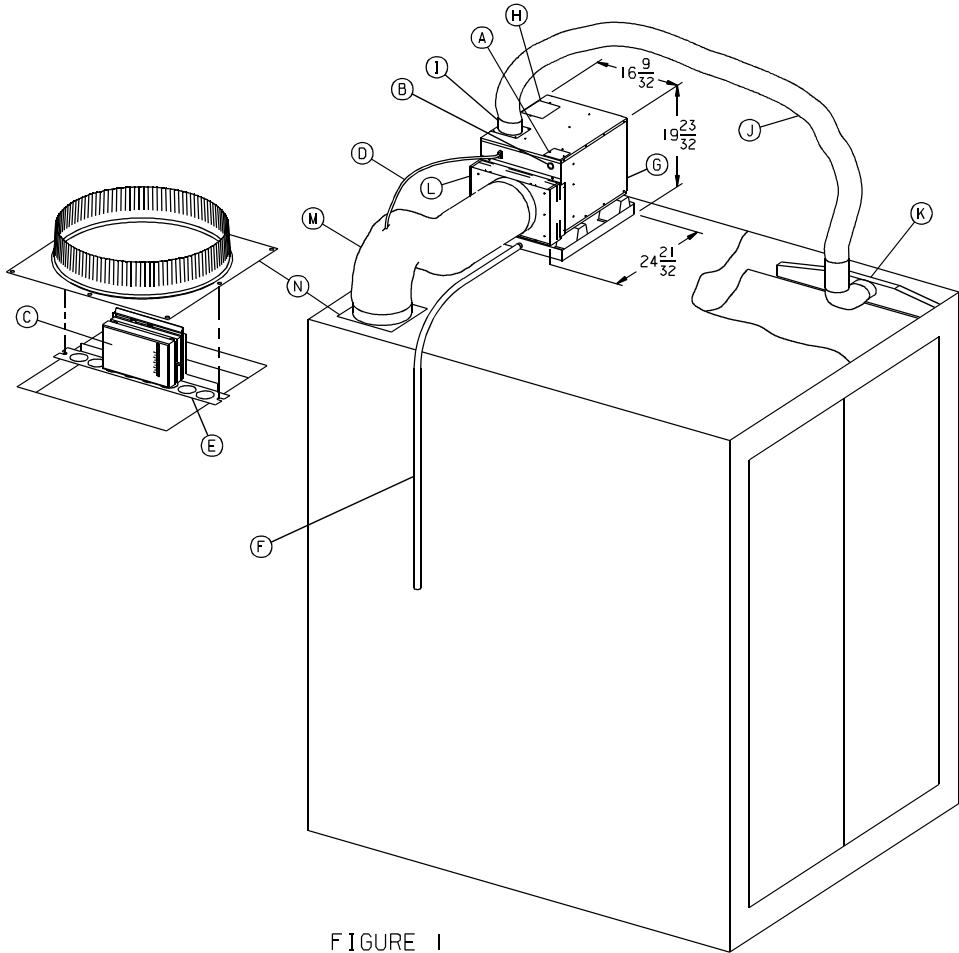

FIGURE 1
A recommended installation is shown in Figure 1. Actual mounting and placement can vary according to existing conditions.
- A) High voltage wiring must be routed through a separate opening in the outer cabinet. This opening is referred to as the "power wire entry" (See Figure 1 (B), page 3). RV Products provides a 7/8" diameter opening for 1/2" conduit. A knockout for 3/4" conduit is also provided.
The thermostat should be mounted on the return air duct mounting bracket (See Figure 1 (C), page 5). The air conditioner and thermostat connect using the plug-in extension cable provided in the 6531B625 Installation Kit.